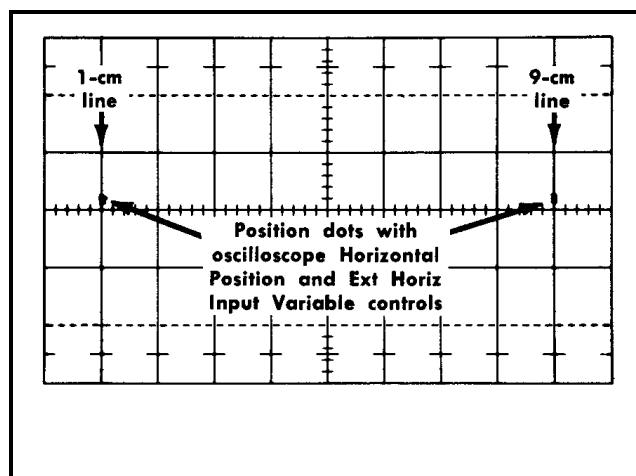

Fig. 5-16. Indicator oscilloscope display used for setting Ext Horiz Input Variable control.
l. With the indicator oscilloscope Horizontal Position control and Ext Horiz Input Variable control, position the two dots to the 1-cm and 9-cm graticule lines as shown in Fig. 5-16. This sets the external horizontal deflection factor to 1 volt/cm. Now, do not change the setting of the Ext Horiz Input Variable control for the remainder of the calibration procedure, or at least until the Type 1S1 TIMING CAL adjustment has been checked.